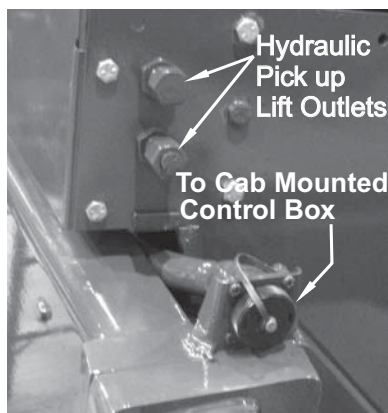

Figure 18 - Hydraulic and Electrical Outlets
- Connect hoses from tractor of pickup lift outlets on baler (see Figure 18).
2. Route wire harness from baler, to tractor (see Figure 18), and into bottom of tractor mounted controller.